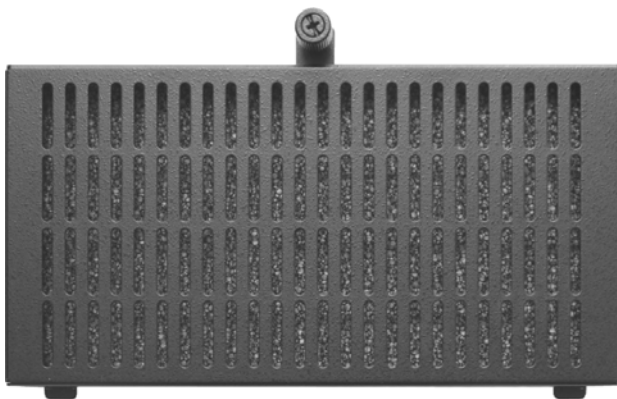

Fig. 24: Filter mat holder with filter mat
6. After cleaning and drying the filter pad, place it in the filter mat holder (see Fig. 24).